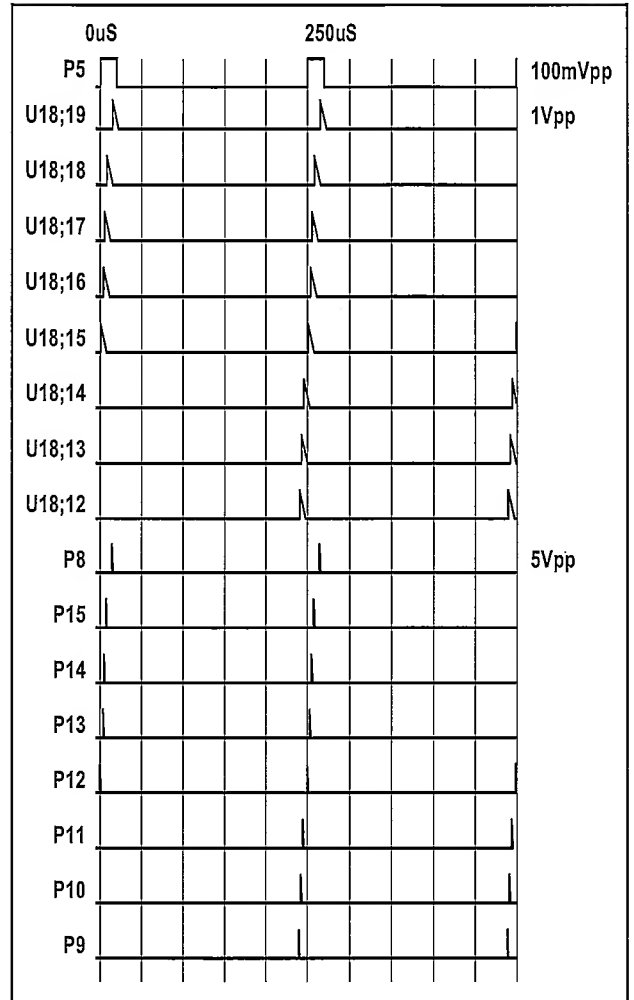

Figure 5-15 Timing diagram for Control signals.
- The timing diagram in Figure 5-15 shows the signals generated by the stimuli program.